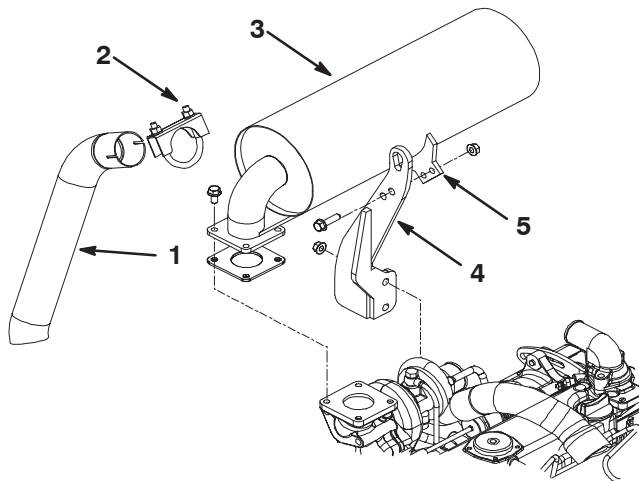

Figure 1
1. Loosen the clamp securing the exhaust pipe to the muffler (Fig. 1).
2. Remove the (2) screws and nuts securing the muffler tab to the exhaust mount assembly (Fig. 1).
3. Remove the (4) screws securing the muffler and the gasket to the engine (Fig. 1). Remove the muffler from the exhaust pipe and the engine. Remove the gasket.
4. Remove the (2) nuts securing the exhaust mount assembly to the engine manifold studs (Fig. 1). Remove the exhaust mount assembly.